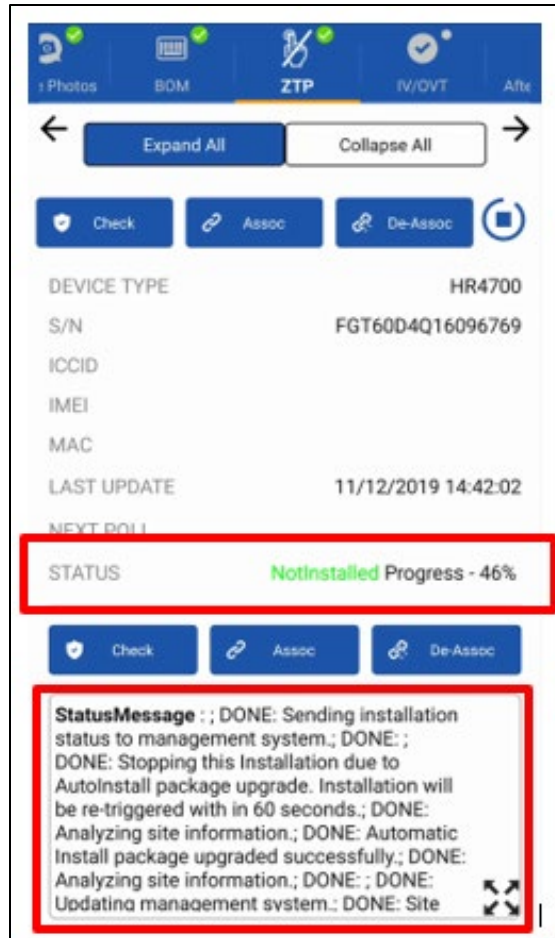

Figure 67: ZTP status updates
4. When you reach the ZTP screen, first ensure that the correct site account number (SAN) is selected, and that the device type is correct (Figure 67). OASIS associates the device to the indicated SAN.
- a. Make sure that the device is connected to the internet, and then press the **Assoc** button as shown in (Figure 67). Alternatively, expand the device and select the individual Assoc button to complete the associations one at a time.